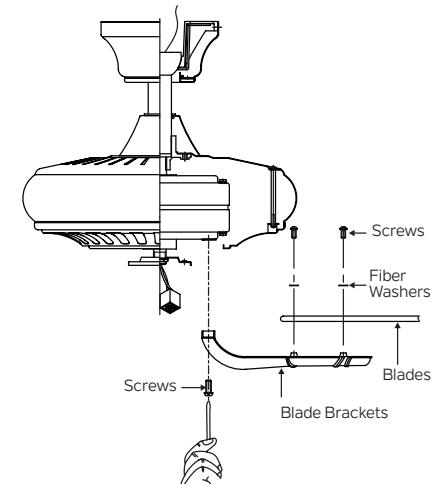

Fig. 15
**Step 2.** Slide the canopy up to the mounting bracket and place one of the key hole slots over the mounting screw on the mounting bracket. Rotate the canopy until the screw head locks in place at the narrow section of the key hole. See figure 15.
**Step 1.** Attach a blade to a blade bracket using the screws and fiber washers provided. (Fig. 15)
**Step 2.** Attach each blade assembly to the motor using the “Pre-Installed” mounting screws in the blade bracket. (Fig 15)